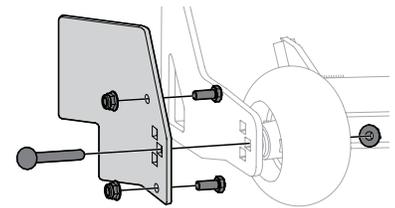

Figure 12
- Place deck wheel bolt through deflector bracket (703-22545). See Figure 12.
- Install deck wheel bolt and deflector bracket loosely onto deck bracket. See Figure 12.
- Install two hex screws (710-3008) and two flange lock nuts (712-04063) with flat of screw head running parallel to wheel bracket. See Figure 12.